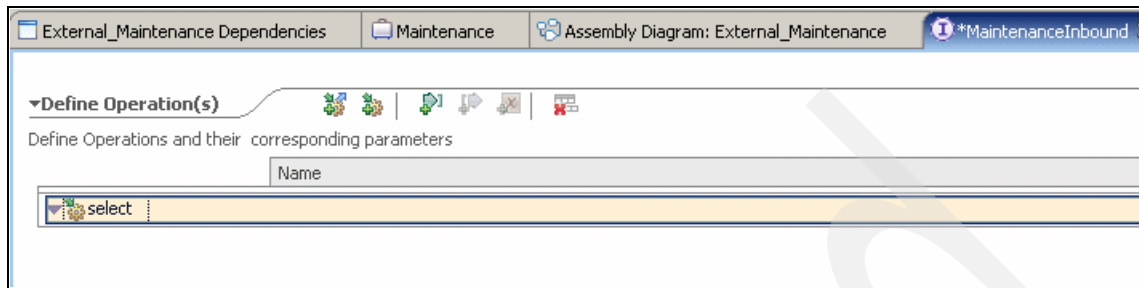

Figure 3-9 New one-way operation
4. In the interface editor, add a one-way operation (we named ours select) (Figure 3-9).